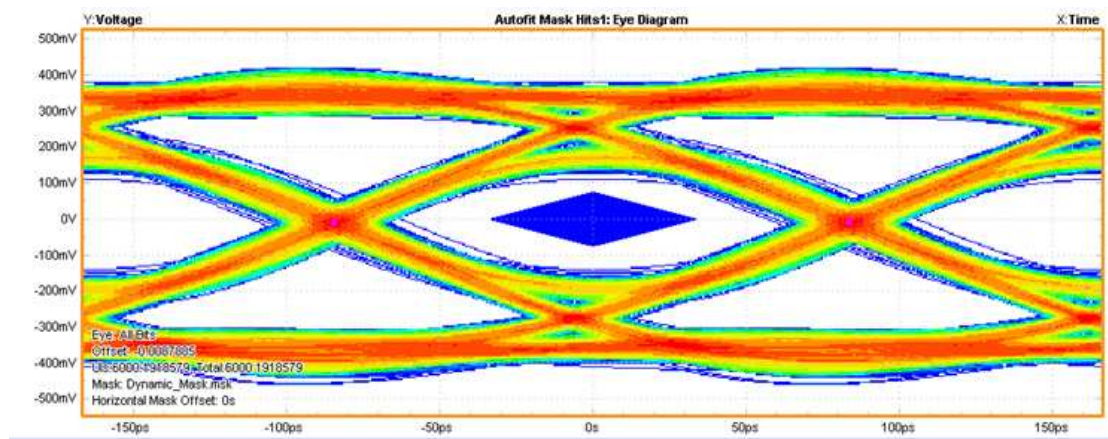

**Fig. 2 HDMI Protection for High and Low speed signals.**
**none** adjustment to the board layout parameters to compensate for the added capacitance of the AZ1043-04F. Figure 2 shows how to implement the AZ1043-04F in a HDMI application.
The AZ1043-04F is designed for allowing the traces to run straight through the device to simplify the PCB layout. As shown in Figure 2, the best way to design the PCB trace is using the flow through layout. The solid line represents the PCB trace. Note that the PCB traces are used to connect the pin pairs for each line (pin 1 to pin 10, pin 2 to pin 9, pin 4 to pin 7, pin 5 to pin 6). For
example, line 1 enters at pin 1 and exits at Pin 10 and the PCB trace connects pin 1 and 10 together. Lines 2, 3, and 4 have the same way of connection. The ground pins (pin3 and pin8) of AZ1043-04F are the negative reference pins. These pins should be directly connected to the GND plane of PCB. To get minimum parasitic inductance, the path length should keep as short as possible. **In Figure 2, the none-TMDS signals, DDC\_CLK, DDC\_DAT, CE\_REMOTE, and HOTPLUG\_DET, can be protected with another low cost part, e.g., AZC199-04S.**